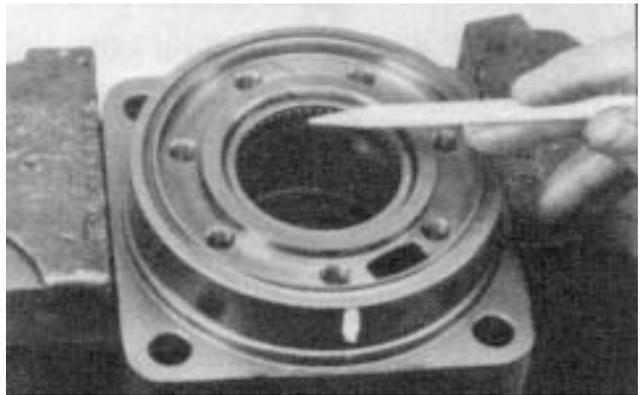

Figure 71
14. If the housing (3) has passed inspection to this point, inspect outer bearing (2), inner bearing (10), thrust washers (8), and thrust bearing (9). Bearing rollers must be firmly retained in the bearing cages but must rotate and orbit freely. All rollers and thrust washers must be free of peening and corrosion. **If any bearing or thrust washer does not pass inspection, replace the housing (3) as a complete assembly** (Fig. 71).